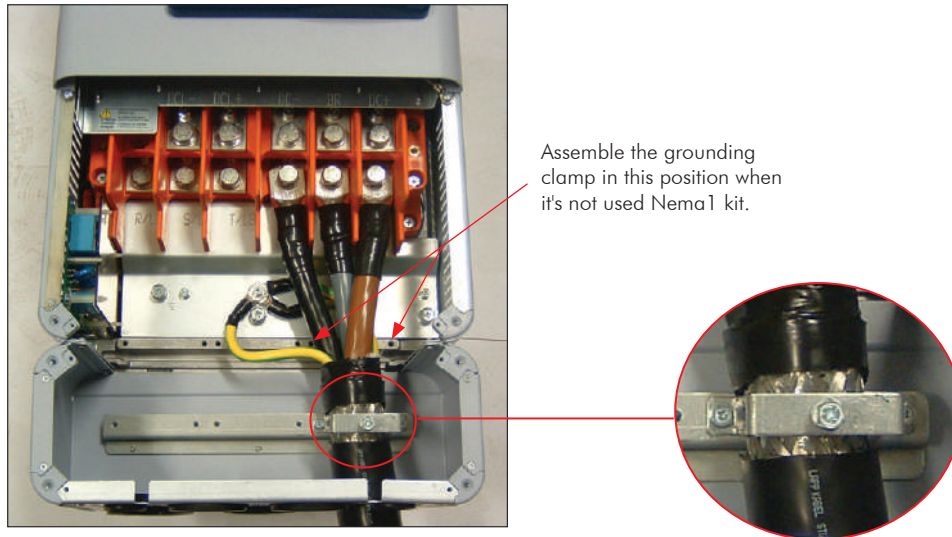

Figure 3.17 - Example of the motor cable shield connection at the inner part of the Nema1 kit supplied with the product
- (1) SCu = copper or aluminum external shielding.
- (2) AFe = steel or galvanized iron.
- (3) PE = ground conductor.
- (4) Cable shielding shall be grounded at both ends (inverter and motor). Use 360° connections for a low impedance to high-frequencies. Refer to Figure 3.17 on page 3-24.
- (5) For using the shield as a protective ground, it shall have at least 50 % of the power cables conductivity. Otherwise, add an external ground conductor and use the shield as an EMC protection.
- (6) Shielding conductivity at high-frequencies shall be at least 10 % of the power cables conductivity.
- ☑ Connection of the motor cable shield to ground: make a connection with low impedance for high frequencies. Example in the Figure 3.17 on page 3-24. In inverters without the Nema1 kit, connect the motor cable shield to the ground in a similar mode, with the clamp at the inverter inner part, according to the Figure 3.17 on page 3-24.